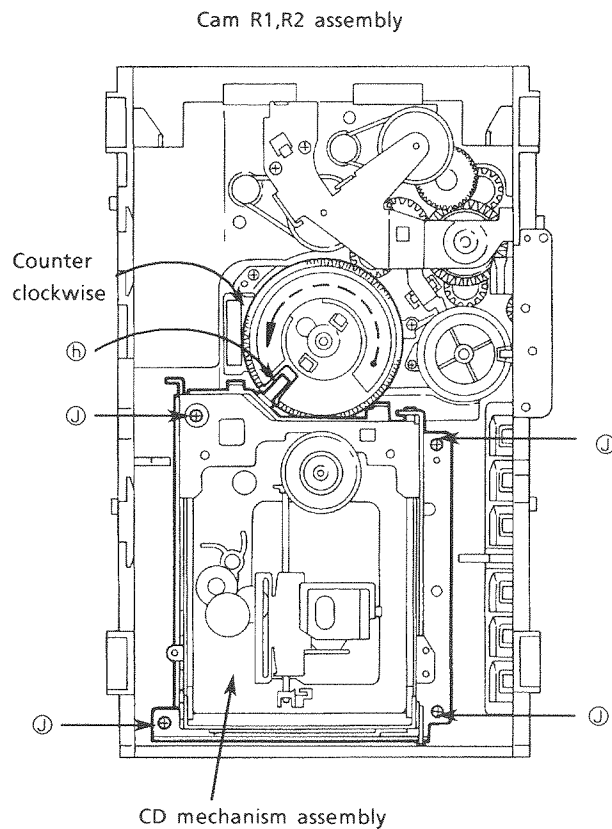

Fig. 36
2. Rotate the Cam R1, R2 ass'y counterclockwise so that CD mech. ass'y's shaft ① is positioned as shown in Fig. 36.
3. Remove 4 screws ② securing CD mech. ass'y. (See Fig. 36.)